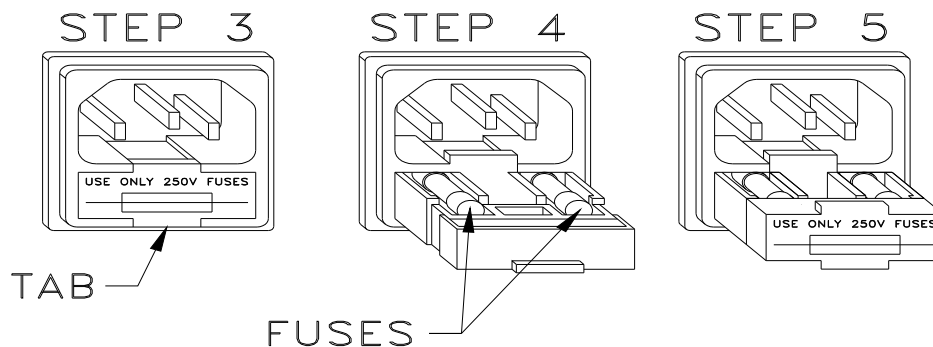

Figure 12-2
4. Use a small screwdriver to pry open the tab of the fuse drawer that is located directly below the power cord connector. The drawer will drop down to expose the ends of the 2 fuses. (Refer to Figure 12-2)